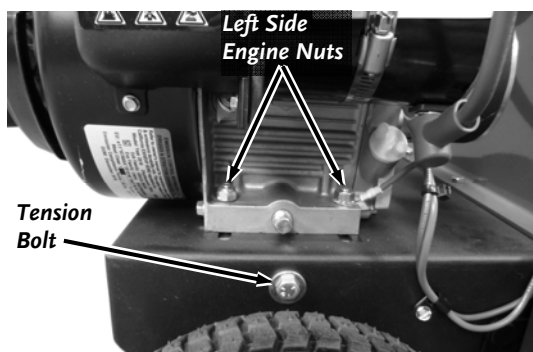

Figure 17
3. Loosen the two, left side Engine Mount Locknuts using a 1/2" Wrench (**Figure 17**).
5. Adjust the Tension Bolt using a 1/2" Wrench (**Figure 17**) until the belt is at the correct tension as describe in Step 2.